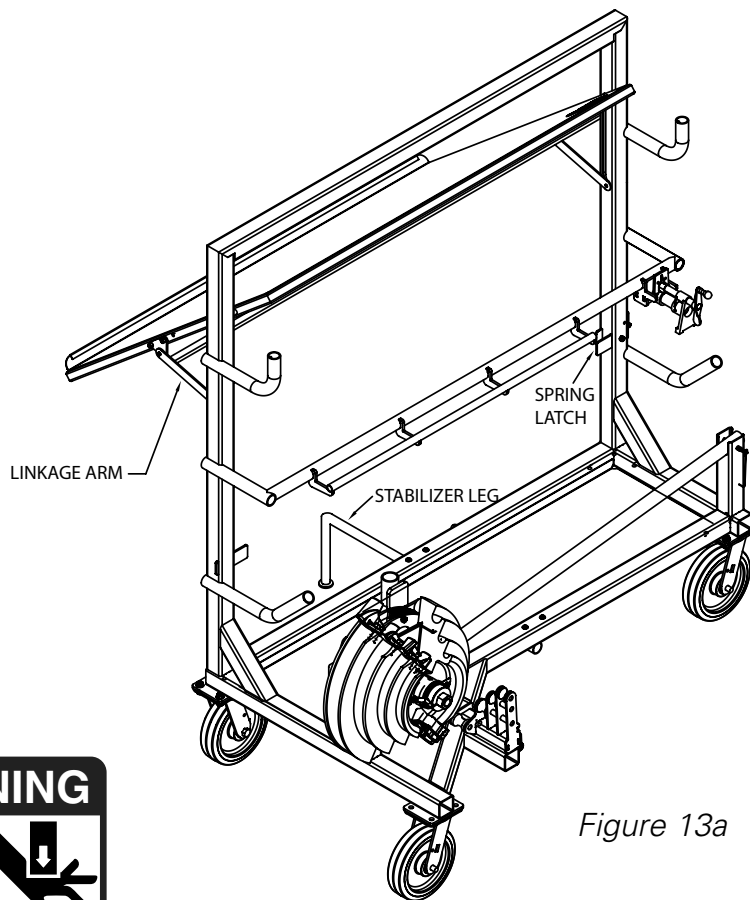

Figure 13a
1. Pull the spring latch (see Figure 13a).